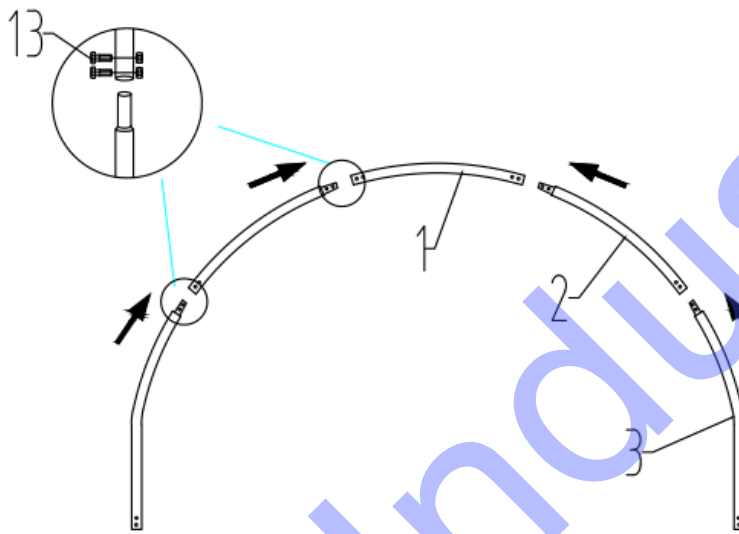

Figure 3
1. As Figure 3 shown to find one Roof Bent Tube (No.1), two Middle Bent Tubes (No. 2), Lower Bent Tube (No. 3) and assemble every group arch with Bolt M8x60 (No.13). DO NOT install the bolt on the top of the truss where the fabric will rest.